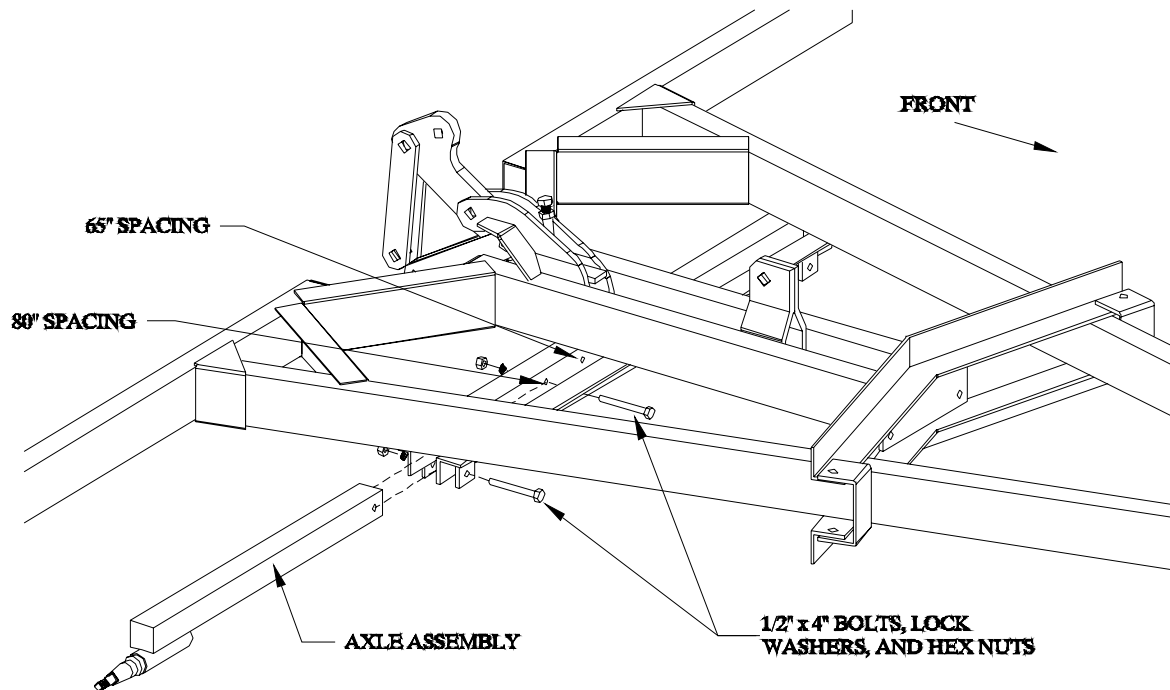

Figure 1
2. Bolt the axle assemblies in position. Use 1/2" x 4" bolts, lock washers, and hex nuts. Refer to Figure 1. Note the location of the spindle is below the axle assembly tube.